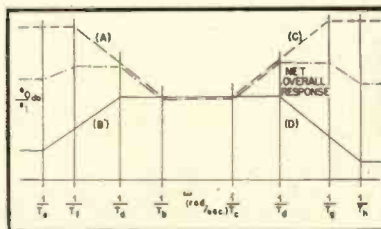

Fig. 2. Frequency response of the actual lead and lag networks of Fig. 1. B' and C' are curves B and C after feedback.
One way of looking at this circuit is to analyze it in terms of Laplace Transforms. Oversimplifying the original schematic, the circuit can be broken down into two lead and two lag networks, as shown in Fig. 1. The lead network (C), being inside a negative feedback loop, becomes a lag network and similarly the lag network (B) becomes a lead network.³ The net curve will therefore be either a boost or an attenuation, as shown in Fig. 2, depending on the relative position of the time constants T_a , T_b , T_c and T_d . When $T_a = T_b$ and $T_c = T_d$, the curves cancel each other producing a flat frequency response.